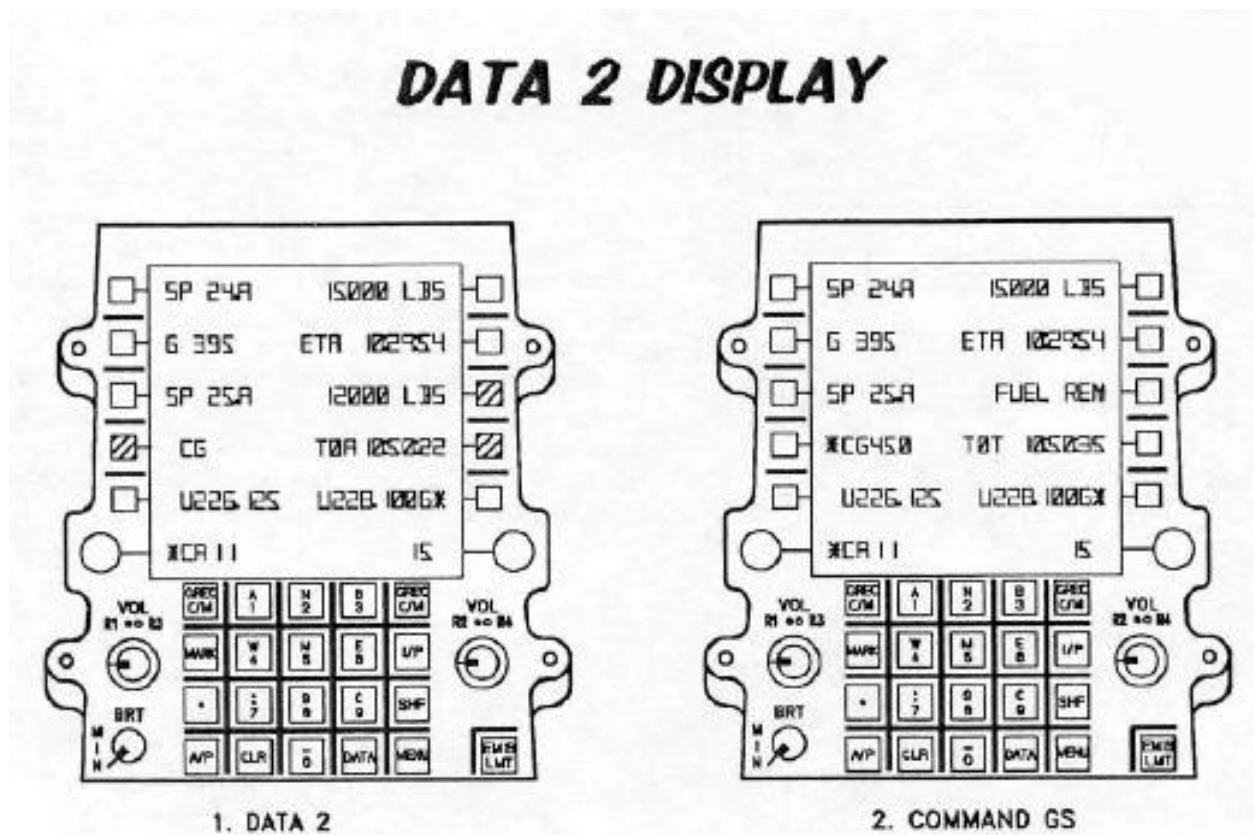

Figure 1-37
The data 2 display (Figure 1-37) provides time, groundspeed, and fuel information pertaining to two selected points in the navigation route sequence (the origin and destination waypoints for the current steering pathway).
Pressing the button next to ETA cycles to ETE and back to ETA as the button is pressed. The label "12000 LBS" shows the fuel remaining at the waypoint (SP 25.A) if the leg is flown at the command ground speed (CG) direct to the line of sight pathway drawn from the previous waypoint (SP 24.A). TOA is the arrival time to the destination waypoint (SP 25.A) assuming the CG is maintained. Pressing either CG, fuel, or TOA changes the display as shown in Figure 1-37. If there is not TOT stored for the destination waypoint (SP 25.A) then OFF is displayed next to CG and TOT. A TOT may be entered on this display. The line-of-sight sequence point (origin point SP 24.A) and the look ahead sequence point (destination SP 25.A) can be incremented by pressing the adjacent button or changed using the scratchpad.